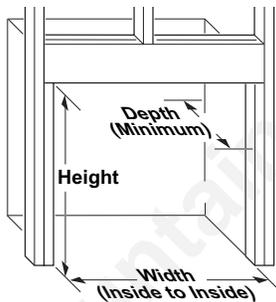
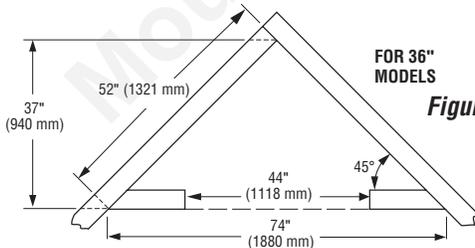

Figure 4a
Figure 4b
1. Frame in rough opening. The fireplace framing must be constructed of steel stud material. Steel studs are provided and are permanently fixed amount the perimeter of the unit. Use dimensions in Table 1 and rough opening layout in **Figure 4a**. Adjust framing so that fireplace is flush with finished wall surface. If installing in a corner, use dimensions in **Figures 4b and 4c** for rough opening.